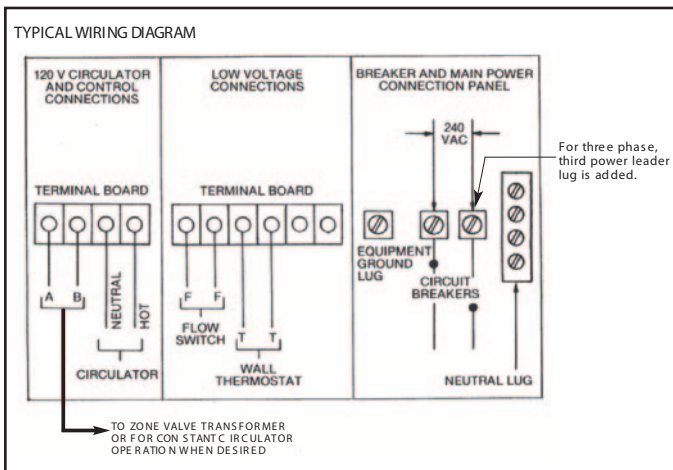

Figure 2. Typical Wiring Diagram for Models equipped with Circuit Breakers.
All circuit breakers ahead of boiler must be OFF. Remove the Control Panel (left-hand front cover) by removing 5 screws from top, bottom and side flanges. The centre compartment contains a 24V control terminal board marked, "FF/TT" (see figure 2). Wire a 24V, two-wire heating thermostat or the auxiliary end switch terminals from zone valves (see Figure 7) to "TT". The "FF" terminals are for a flow switch. Do not connect the wires to the flow switch "FF" terminals until the by-pass flow adjustments are completed. Refer to "Bypass Flow Adjustment" (page 7) for wiring and adjustment procedures. The flow switch wires should be taped at the boiler until they are to be connected to "FF".
- All circuit breakers ahead of boiler must be OFF. Remove the Service Connection Panel (right hand front) cover by removing 5 screws from the top, bottom and side flanges (see wiring diagram on back of the Service Connection Panel and Figure 2).